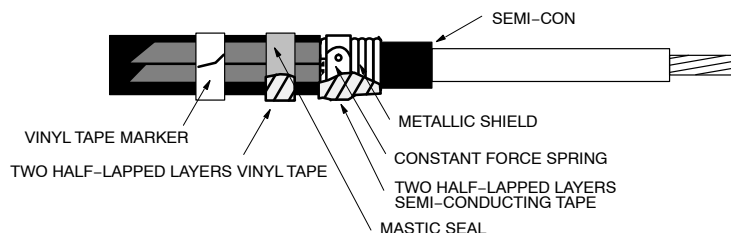

FIGURE 5A
6. Wrap two half-lapped layers of vinyl tape around the mastic seal. Apply two half-lapped layers of semi-conducting tape over the constant force spring, and exposed metallic shield. Do not cover the exposed semi-con insulation shield. See Figure 5A.